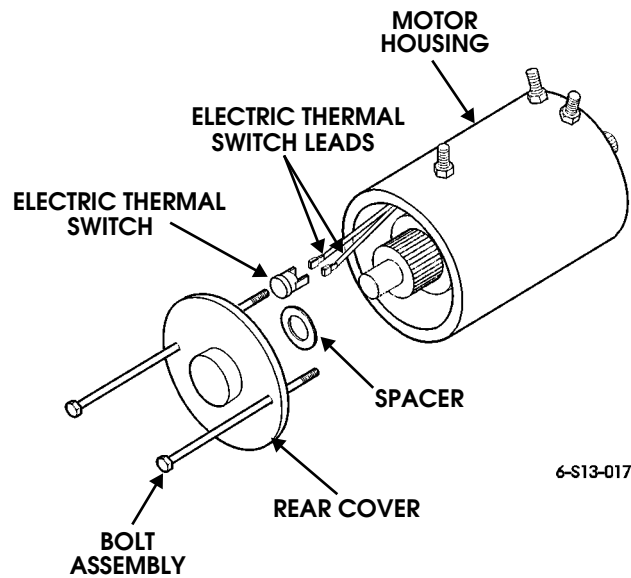

Figure 13-24: Motor and Gasket
5. Place winch on end with motor end up (Figure 13-24).
5. Coat head of electric thermal switch with lubricant and connect to two electric thermal switch leads (Figure 13-24).